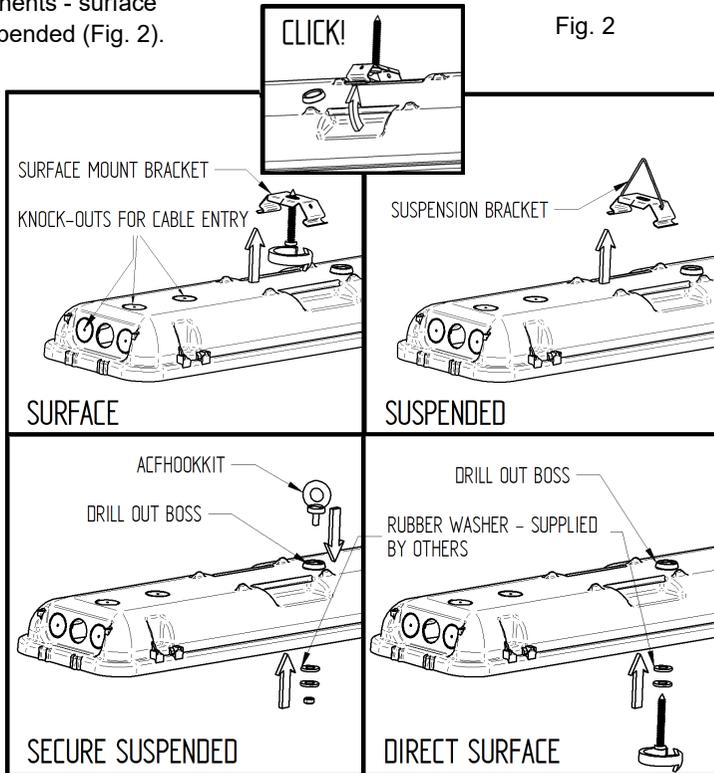

Fig. 2
4. There are 2 mounting options with the supplied components - surface mounted or suspended (Fig. 2).